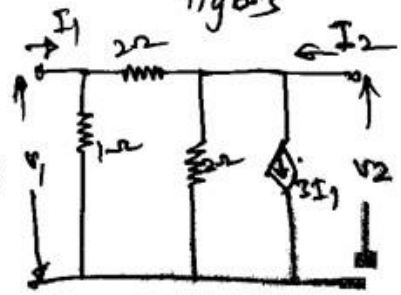

Fig 8.1
9. Find Z and Y parameters for the two-port network shown in fig.8.1